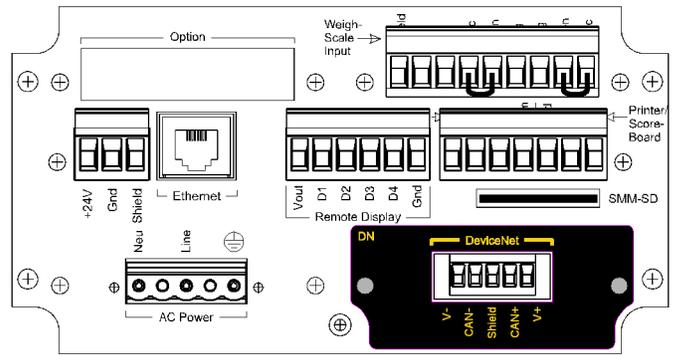

FIG. 8
- Step 1. Remove the factory installed jumpers from the terminal block if you are connecting an 8 wire cable from the junction box. (See Fig. 8)